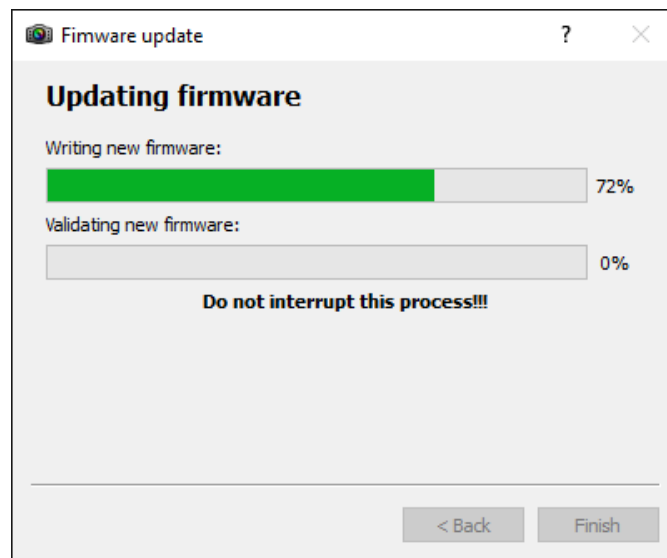

Figure 33 – Firmware Update process window
5. The following window displays the initiated firmware update. The firmware update process is displayed in the first progress bar, and the firmware validation is displayed in the second, as shown in Figure 33